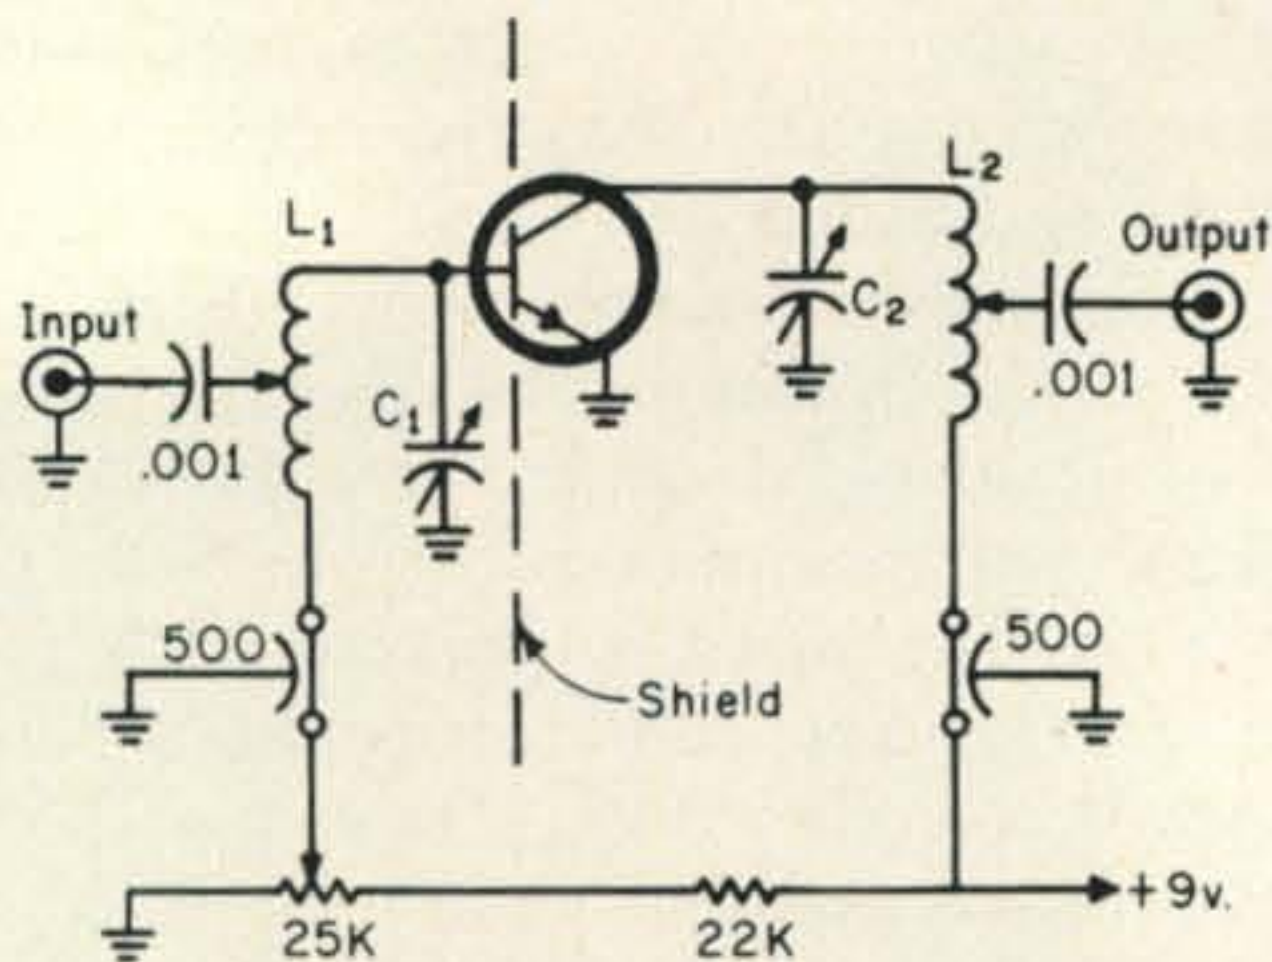
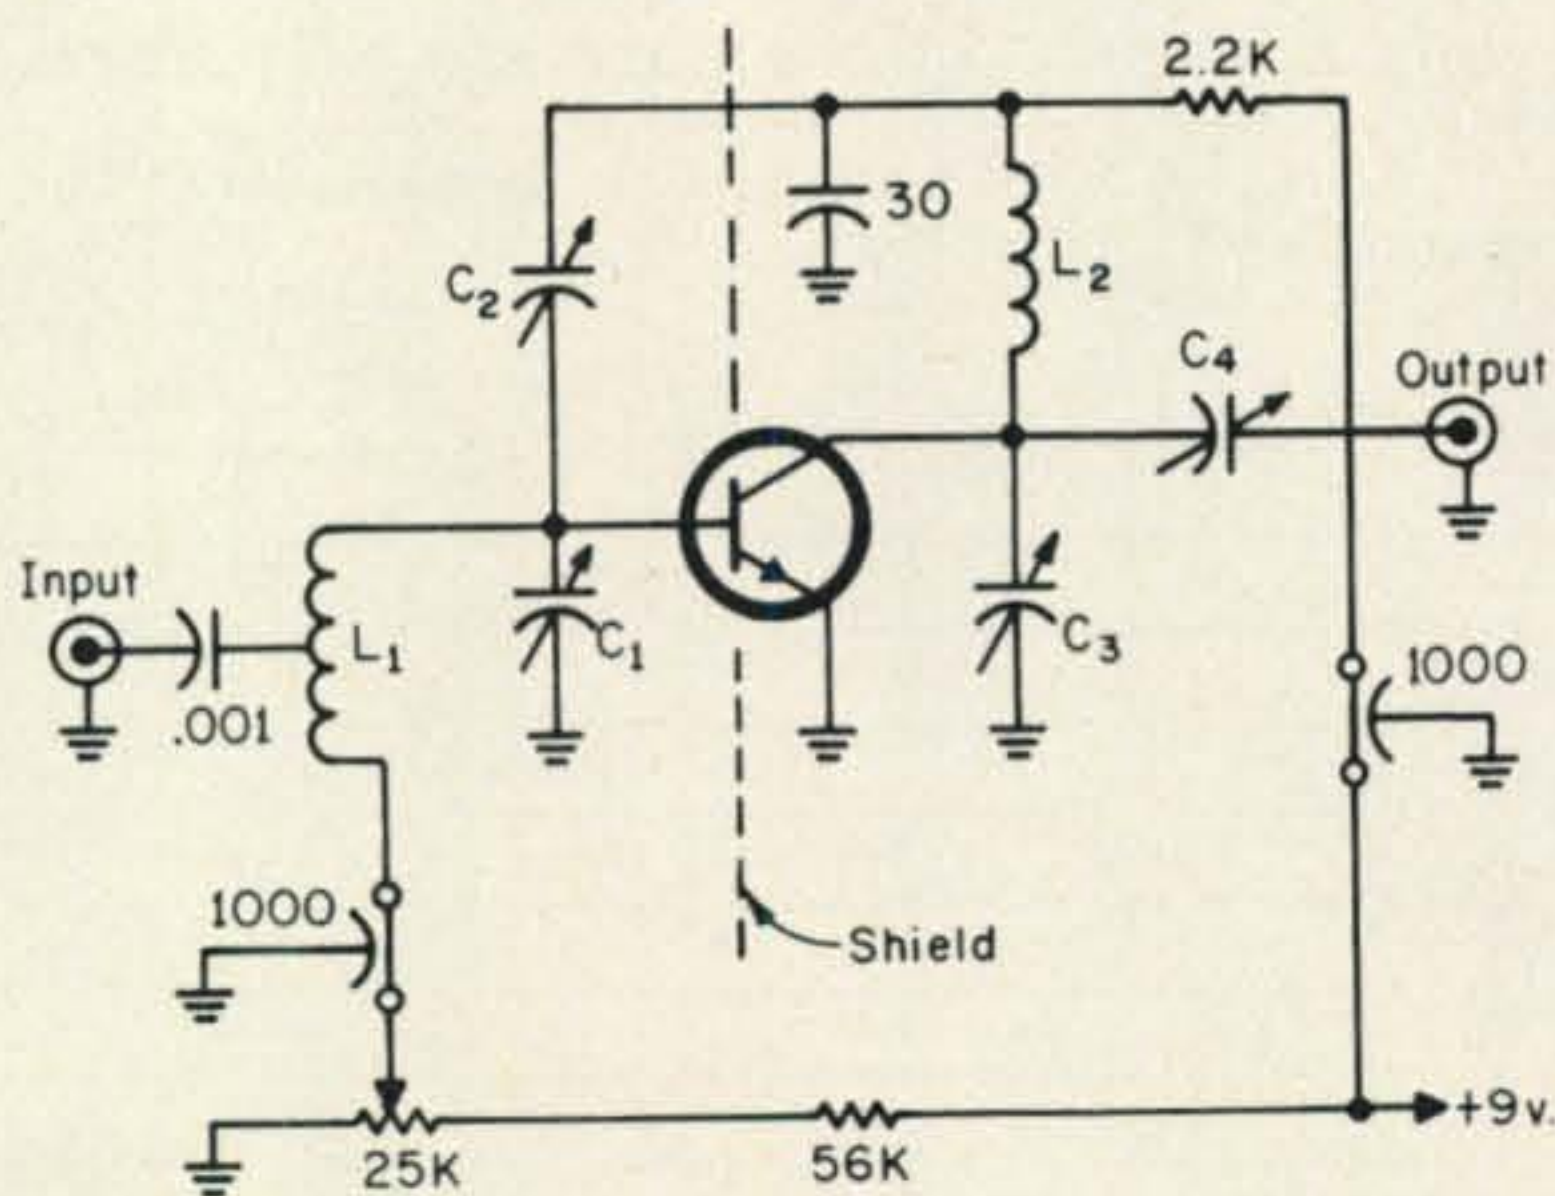

Fig. 2—A low noise 432 mc transistor amplifier using a K5000.
Fig. 3—A low noise 144 mc transistor amplifier using a K5000.
There have been numerous circuits published of v.h.f. transistorized amplifiers, these we add the following two circuits. Figure 3 shows a 144 mc amplifier and figure 2 shows a 432 mc amplifier. The circuits are good NF wise as any and are designed for above mentioned K5000's. The common emitter configuration is used in both circuits which because of its degenerative feedback produces lower gain than the common base configuration, but also lower noise figure. Because of this feedback no neutralization is required of the 432 mc amplifier. Both amplifiers can be built in standard mini boxes with a small piece of copper flashing used to shield the base from the collector section. Tuning and taps of the base and collector circuit should be adjusted for maximum gain and bias set for a collector current of about 1 ma—this level produces minimum NF with K5000's. The maximum gain coil tap positions are very close to those for minimum noise figure. Slightly better NF can be obtained by readjusting the base coil tap to minimum detectable signal.
On the other hand, difficulties due to high signal voltages may be avoided by using the scheme shown in fig. 2. Here, two diode
Fig. 2—Two capacitor diodes used in this back-to-back configuration avoid diode conduction or self-bias by signal levels higher than the control bias. A d.c. blocking capacitor is not needed.
**ANSWER:** The determination of whether a transistor is a PNP or an NPN type may easily be made with an ohmmeter as follows (also refer to fig. 3):
Fig. 3—Ohmmeter readings and polarity for determining PNP or NPN-type transistors. The makeup of a transistor is like back-to-back diodes as indicated at the top row.